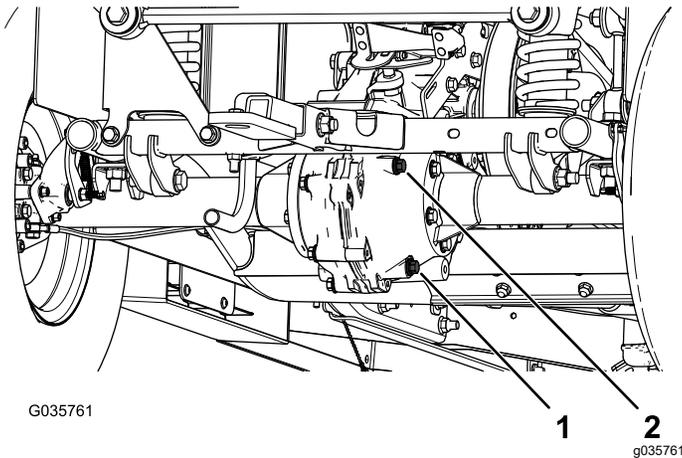

Figure 61
4. Remove the fill plug on the transaxle (Figure 61).
5. If the fluid level is low, remove the fill plug and add the specified fluid until it runs out of the hole (Figure 61).
1. Align a drain pan under the drain plug (Figure 61).
2. Remove the fill plug and the seal (Figure 61).
3. Remove the drain plug and the seal, and allow the fluid to drain completely (Figure 61).